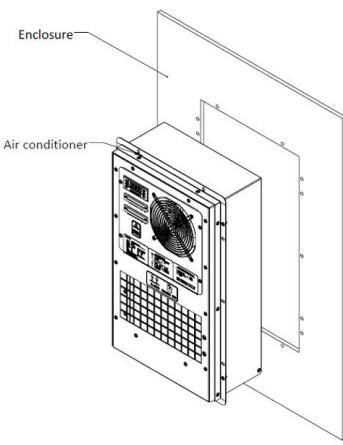

Figure 2
4. Check whether sealing gasket is installed on the flange of the air conditioner, and then install the air conditioner into the corresponding cutout in the cabinet, as shown in Figure2.